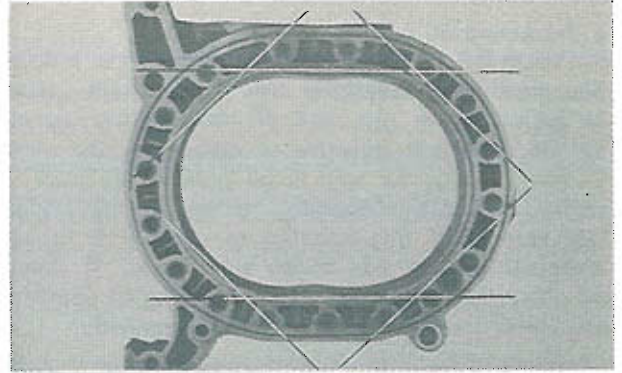

Fig. 1-49 Inspecting positions of housing distortion
6. Check for rotor housing distortion by placing a straight edge in the position shown in Fig. 1-49.